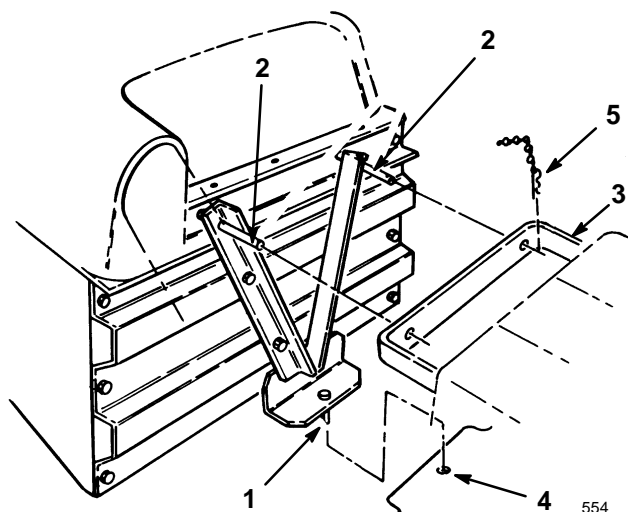

Figure 3
4. Insert the lower mounting pin on the V-bracket into the mounting hole in the hitch (Fig. 3).
5. Insert the upper mounting pins on the V-bracket into the holes in the mounting bracket on the rider and secure them with the hairpin cotters attached to the V-bracket (Fig. 3).
3. Remove the hairpin cotters securing the grass bagger to the mounting bracket on the mower. Rock the bagger backward, then pull it free of the mower hitch (Fig. 3).